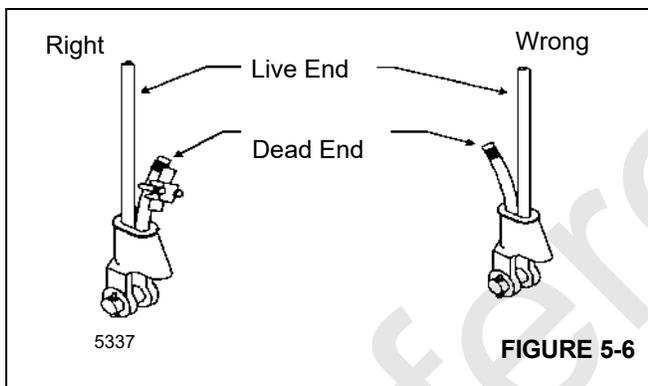

FIGURE 5-6
3. Make sure the live-loaded side (Figure 5-6) of the rope is directly in line with the ears of the socket and the direction of pull to which the rope will be subjected. If the rope is loaded into the socket incorrectly, under a load the rope will bend as it leaves the socket, and the edge of the socket will wear into the rope causing damage to the rope and eventual failure.
4. Insert the end of a wire rope into the socket, form a loop in the rope, and route the rope back through the socket allowing the "dead" end (Figure 5-6) to protrude from the socket. Make sure that the dead end of the rope is of sufficient length to apply end treatment to the dead end after the wedge has been seated.